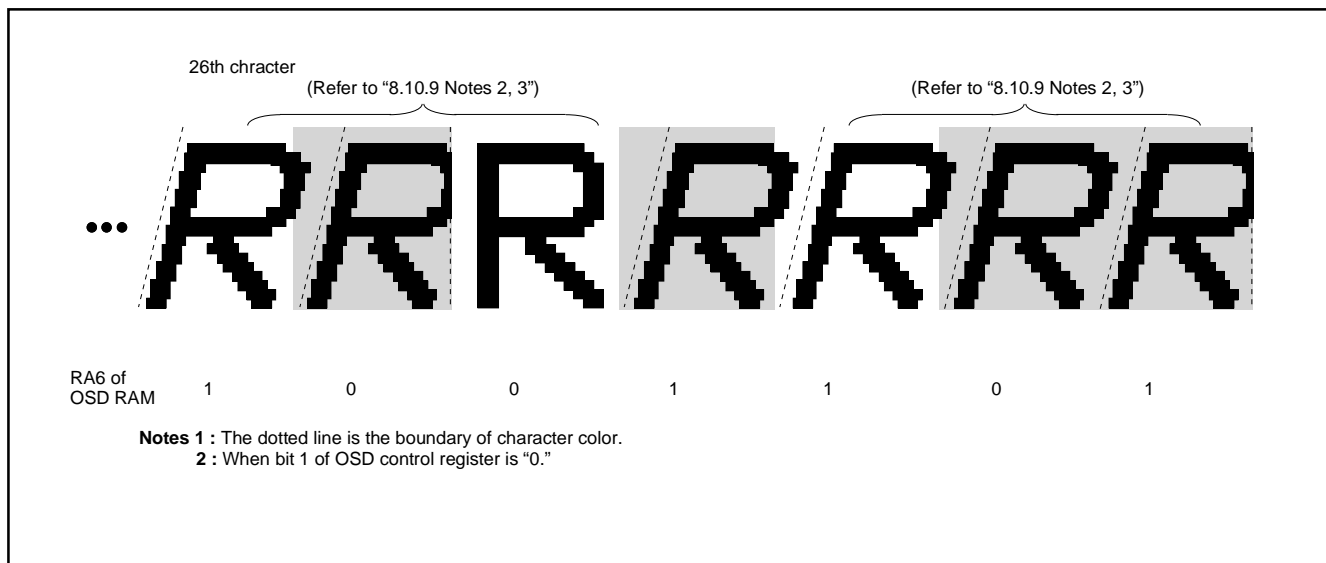

Fig. 8.10.20 Example of Italic Display
**2:** The boundary of character color is displayed in italic. However, the boundary of character background color is not affected by the italic (refer to Figure 8.10.20).
**3:** The adjacent character (one side or both sides) to an italic character is displayed in italic even when the character is not specified to be displayed in italic (refer to Figure 8.10.20).